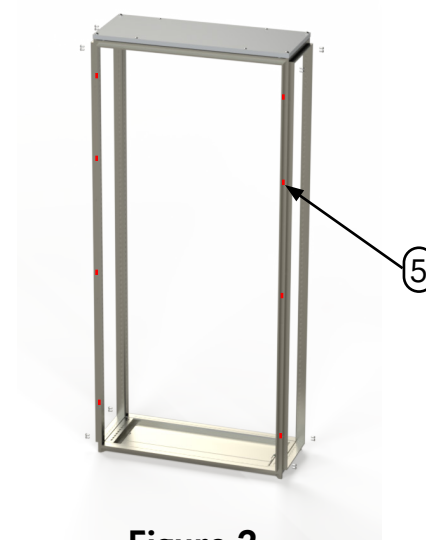

Figure 2
- **Important:** Ensure all four door hardware cutouts on the rails are aligned and facing the same direction to correctly position the door (Figure 2).
- Tap into place with a mallet (Figure 2).